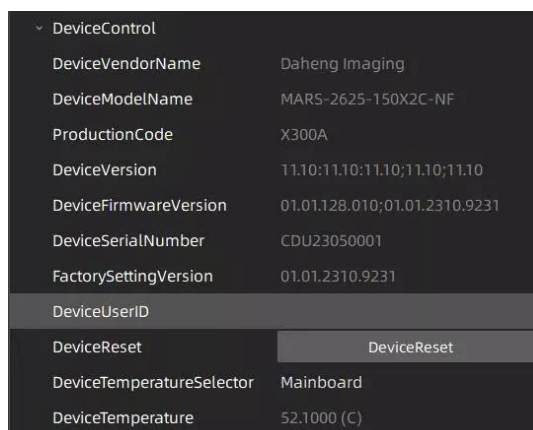

Figure 8-48 GalxyView software
- 1) Set by the GalxyView, as shown in the Figure 8-48.